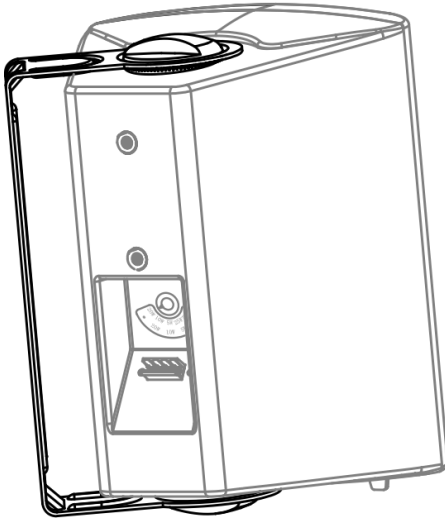

Figure 3: Galil 5-O with Brackets Connected
4. Align the bracket screw holes (upper and lower) to those on the speaker and screw a knob to each of the holes to secure the speaker to the bracket (see Figure 3).